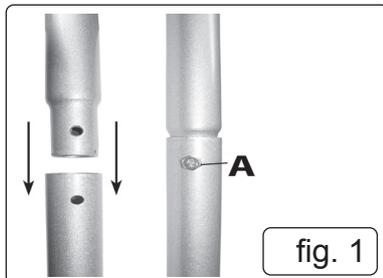
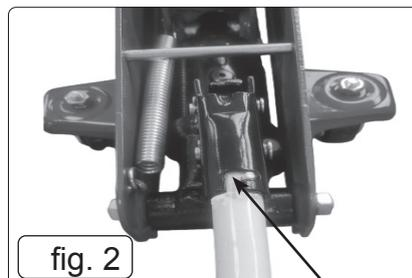

fig. 1
fig. 2
- 4.1. The jack comprises the following parts Steel chassis. Two-part pumping handle (fig.1) then twist and turn handle to lock into position (fig.2).
- 4.2. Insert the upper handle into the lower handle. See fig.1.